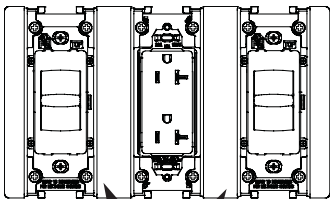

Figure 5 / Figura 5 / Figure 5
5. Attach the couplers between the devices with the screws that were removed in step 2. (See Figure 5.)